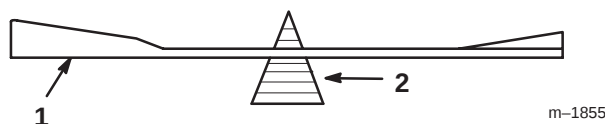
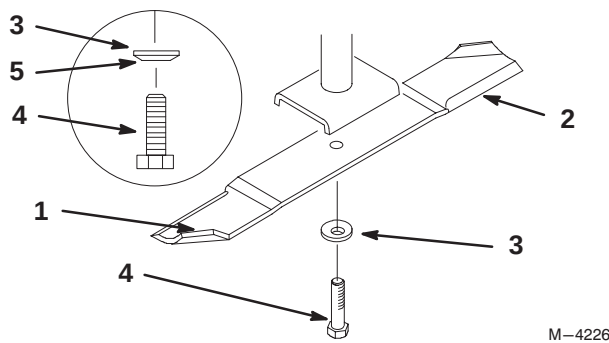

Figure 22
Figure 23
1. Hold the blade end using a rag or thickly-padded glove. Remove the blade bolt, spring disk and blade from the spindle shaft (Fig. 23).
2. Check the balance of the blade by putting it on a blade balancer (Fig. 22). If the blade stays in a horizontal position, the blade is balanced and can be used. If the blade is not balanced, file some metal off the end of the sail area only (Fig. 23). Repeat this procedure until the blade is balanced.
1. Install the blade onto the spindle shaft (Fig. 23).
2. Install the spring disk and blade bolt (Fig. 23). **Torque the blade bolt to 85–110 ft-lb (115–150 N•m).**